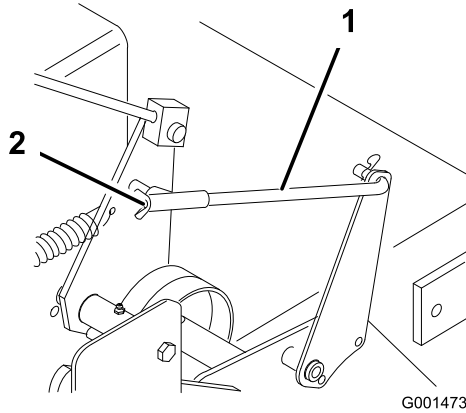

Figure 39
5. To adjust the brake, rotate the wing nuts on the brake rods (Figure 39).